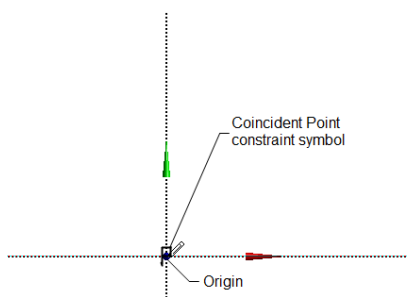

Figure 3-58 Specifying the start point of the line
12. Move the cursor close to the origin; the symbol of Coincident constraint (P) is displayed, as shown in Figure 3-58.